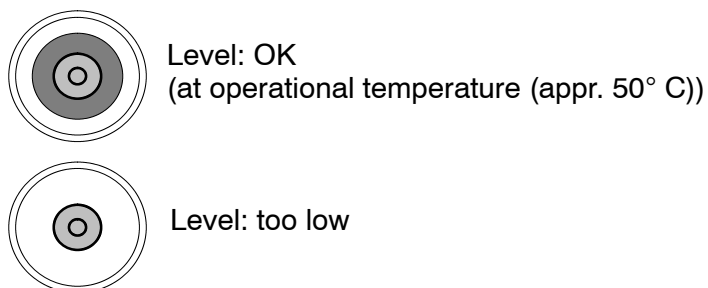

Figure 16 : Measuring cone (top view)
- Fill in distilled water (**only** distilled water from Raytheon Anschütz, part number 148-398, one 230cm3 bottle) into the inlet for supporting liquid until the measuring cone shows “Level O.K.”, see Figure 16 .